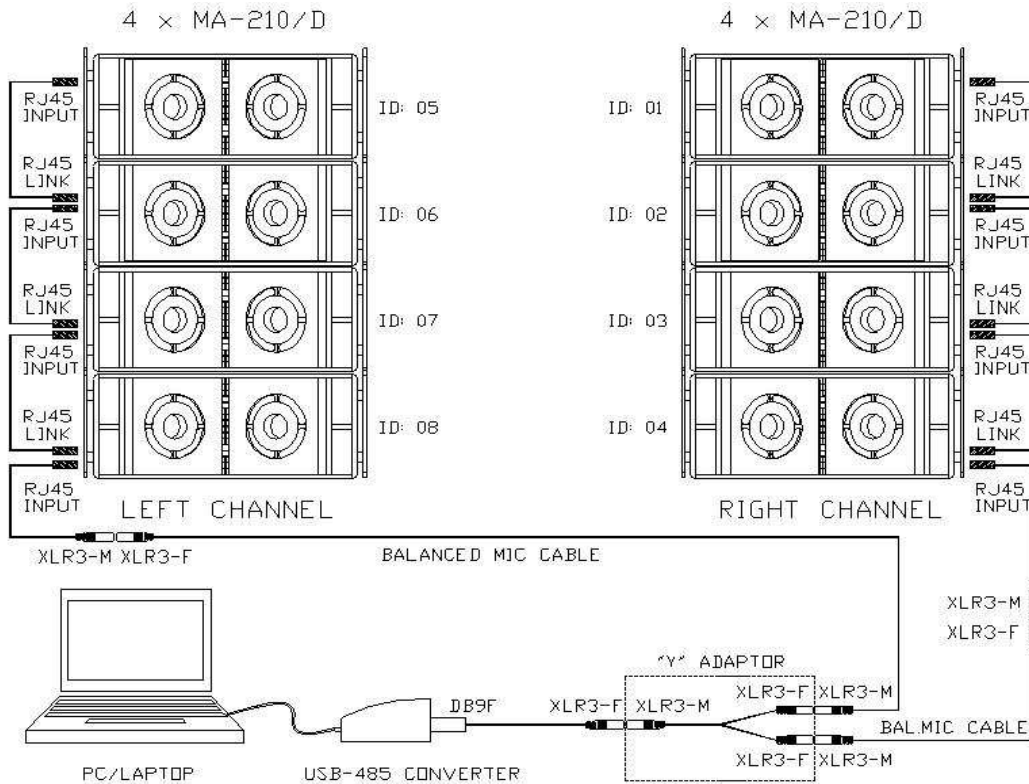

Fig. 5. Connection using the "Y"-adaptor
2) “Y”-connection: using a “Y” adaptor (see Fig. 5). The signal is divided in two branches, one per channel. For this configuration, the following adaptors are needed: